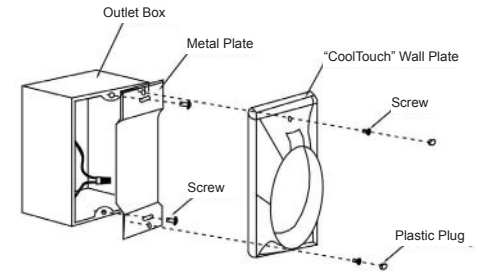

Fig. 24
Step 2. Install the metal plate and “CoolTouch” wall plate to the existing wall outlet box with 4 screws provided. Then place the two plastic plugs into the wall plate. (Fig. 24)